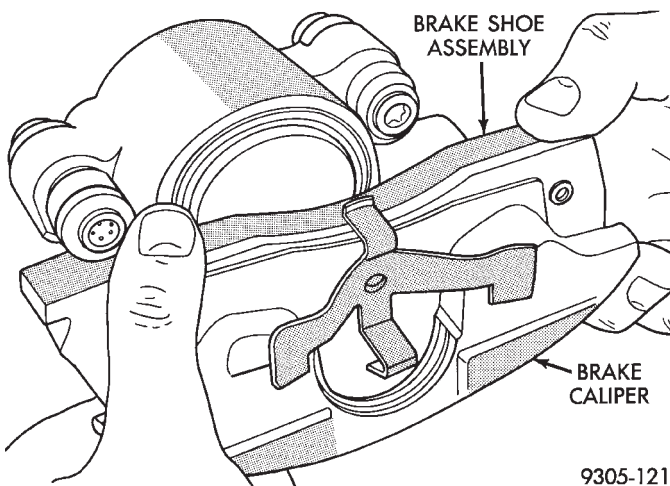

Fig. 57 Installing Outboard Brake Shoe Assembly
(6) Slide the new outboard brake shoe assembly onto the caliper assembly (Fig. 57).